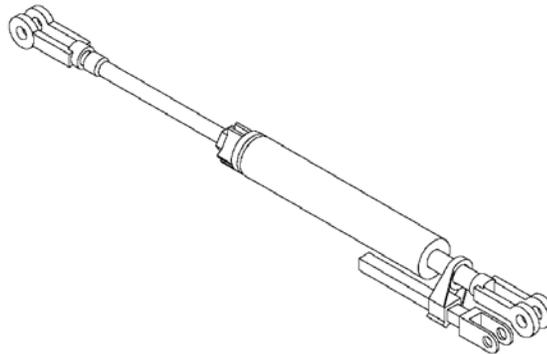

Figure 29: KRD2A-500AR Slack Adjuster
**5.10 KRD2A-500AR SLACK ADJUSTER, Fig. 29, 30 and 31**